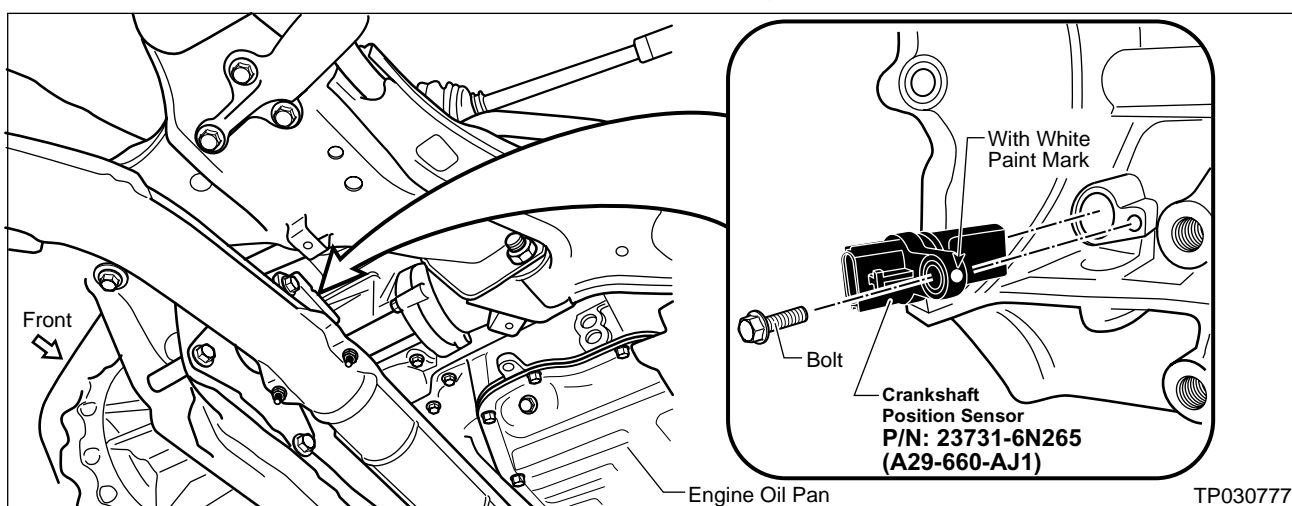

Figure 6
* This sensor has a white paint mark on it (see Figure 6).
2. Locate the **Crankshaft Position Sensor** (see Figure 6).